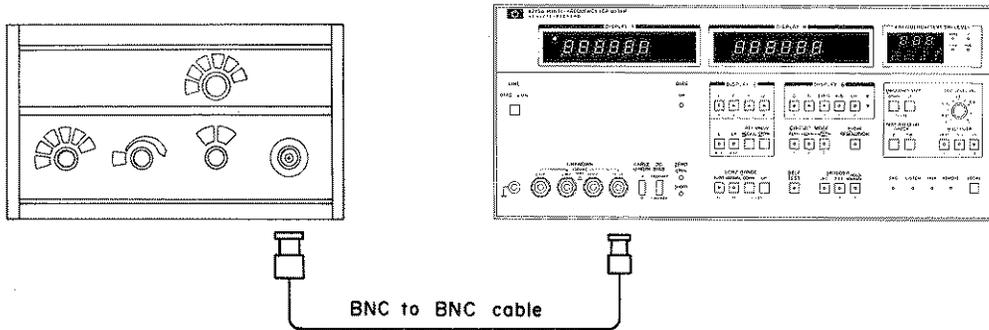

Figure 5-9. Test Signal Level Check Accuracy Adjustment Setup.
- *5. Connect RF voltmeter input to 4275A UNKNOWN H CUR terminal with a BNC to BNC connector as shown in Figure 5-9.
8. Check that FREQUENCY/TEST SIG LEVEL display output is 0.90 (V) within ± 5 counts.